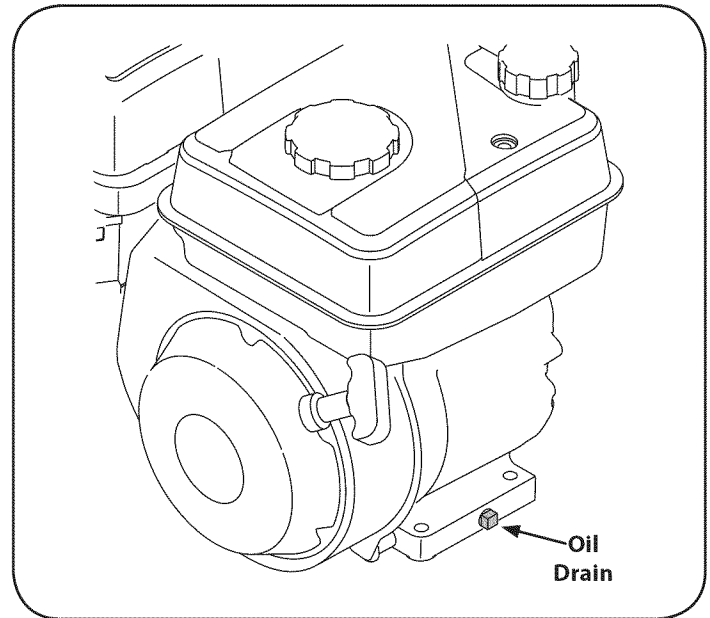

Figure 24
3. Remove oil drain end cap located at the base of the engine, and drain oil into an appropriate receptacle. See Figure 24.